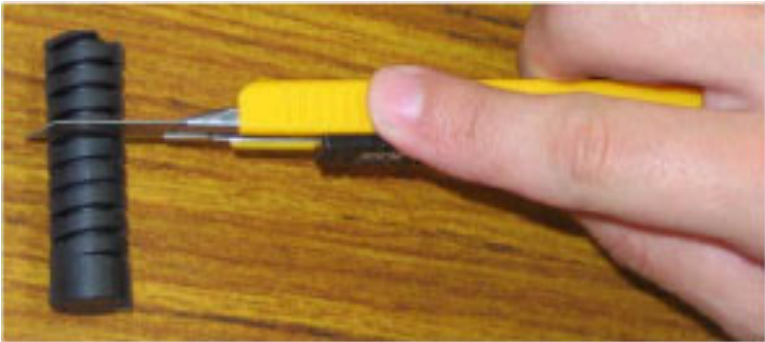

Figure 3.3: Adjust the Size of the Anti-Vibration Rubber
6. Install PCI extension to hold 2nd anti-vibration rubber (Figure 3.3) and screw the 2nd anti-vibration rubber towards the 2nd PCI card until it is fixed.